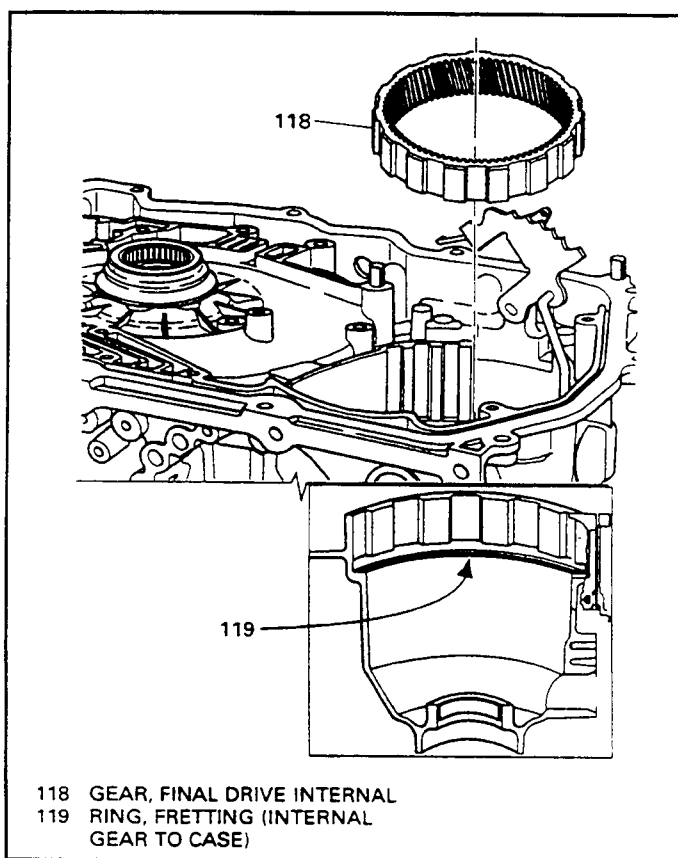

Figure 80
80. Remove the final drive internal ring gear, by lifting straight up with equal force on both side of the ring gear (See Figure 80).
NOTE: The fretting ring (119) is located in the case groove. The fretting ring does not need to be removed unless it appears to be damaged. (See Figure 80).